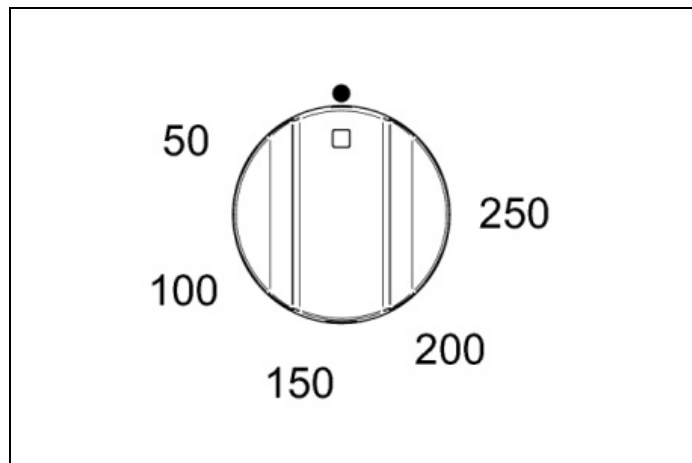
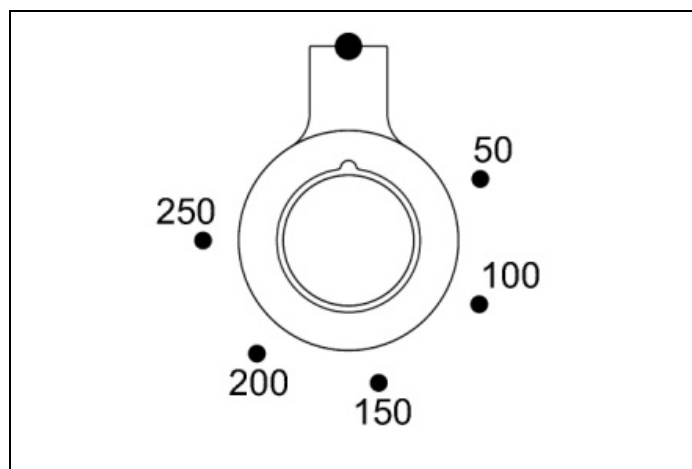
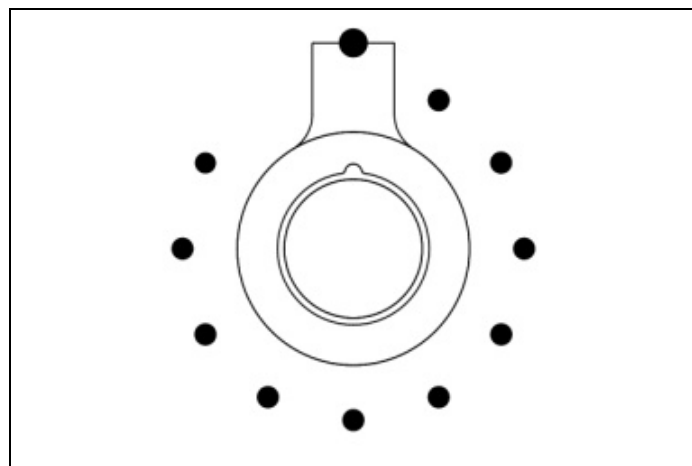

Fig. 23
Fig. 24
Fig. 25
- 2) Turn the temperature knob (Fig. 23 - Fig. 24 and Fig. 25 for the PRO T model only) clockwise to select the temperature required. The orange light turns off once the oven has heated to the chosen temperature and is ready for use. It is normal for this light to switch on and off during cooking, as the heating elements operate to keep the temperature constant. (oven operations is indicated by the programmer display for the PRO T version only).